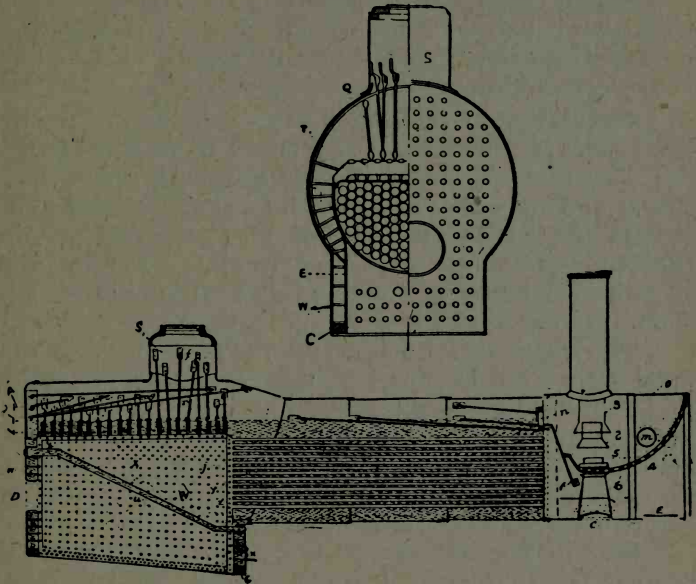

Fig. 2.
The fire-box of the modern locomotive is rectangular in shape (See Fig. 2.), and is constructed with five different sheets—two side sheets (E), crown sheet (U), back sheet (C), and flue sheet (Y).
**Crown Bars**—Are those that support the crown sheet (See T, Fig. 2). Sling stays are supports extending from the crown bars to the outside shell of the boiler (See Q, Fig. 2). The worst feature to the use of crown bars is the difficulty of keeping them clean, due
**Adjusting the Petticoat Pipe.**—By increasing the space between the nozzle and the petticoat pipe and between the base of the stack and the sleeve, a larger space is provided for the gases to pass from the front end. By decreasing the space it gives a directly opposite effect. Should the exhaust appear strongest on one side of the stack, it is an indication that the exhaust stand, petticoat pipe, sleeve or stack are not in line. (See Fig. 2.)